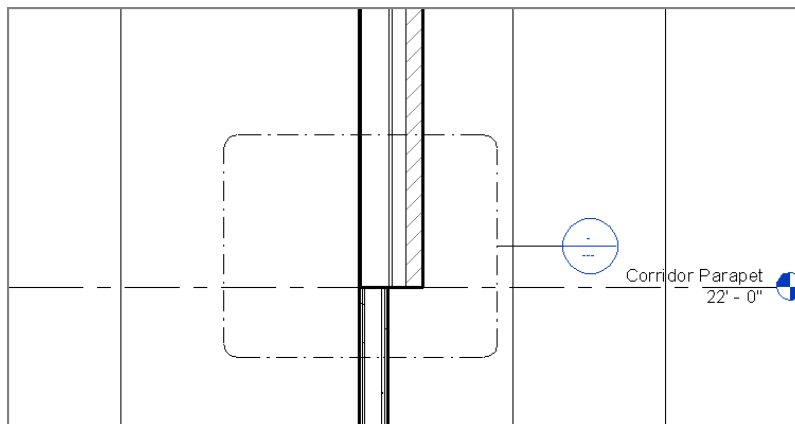

FIGURE 3.63: The callout area is directly related to the view it's calling out.
4. Pick a window around the area where the corridor firewall meets the exterior wall with the brick façade, as shown in Figure 3.63.